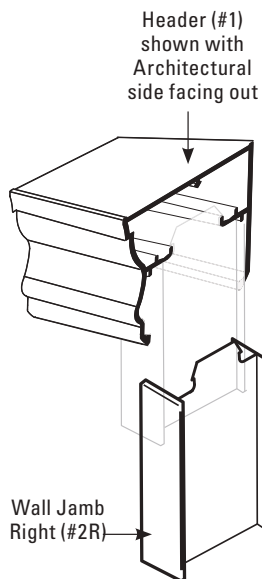

Figure 5
C. The Aerial™ comes with a positive snap-lock feature which eliminates the need for screws to hold the Header in place. Choose which of the two styles on the reversible Header you would like to face out, and position it over the top of the Wall Jambs. Spread the Header sides slightly as you pull it down onto the Wall Jambs. You should be able to hear and feel when it solidly locks in place (See **Figure 5**).